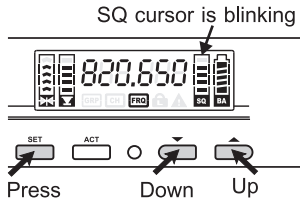

Fig. 15
- (1) Press the 'SET' button until the GRP cursor blinks. Press **▼** or **▲** button to select group 7 (frequency band dependent).
- (2) Press the 'SET' button again to the desired channel 01~16 (frequency band dependent).
- (3) Press the 'SET' button to the FRQ cursor. Press 'SET' again. The first 3 numbers start blinking to denote it is ready to accept parameter change.
- (4) Press ▼ or ▲ button to move down or up by 1 MHz step.
- (5) Press the 'SET' button during blinking and the last 3 numbers start blinking to denote it is ready to accept parameter change.
- (6) Press ▼ or ▲ button to move down or up by 25 kHz step.
(E) SQ: SQUELCH Setting. Fig. 15: